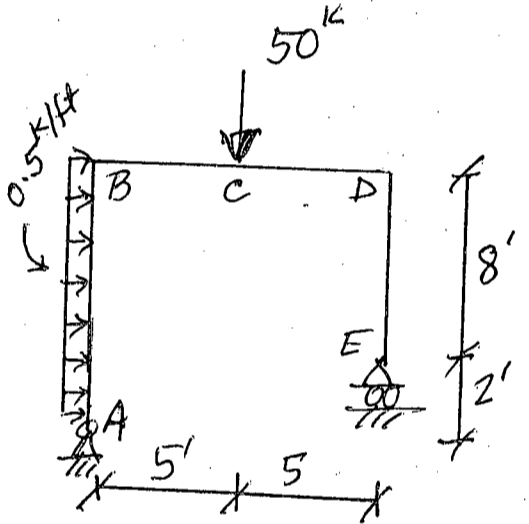

Fig. 10
11. Find horizontal deflection at 'D' of the frame shown in Fig. 10. Given:  $A = 10 \text{ in}^2$ ,  $I = 400 \text{ in}^4$  for all member and  $E = 30,000 \text{ ksi}$ . (28)